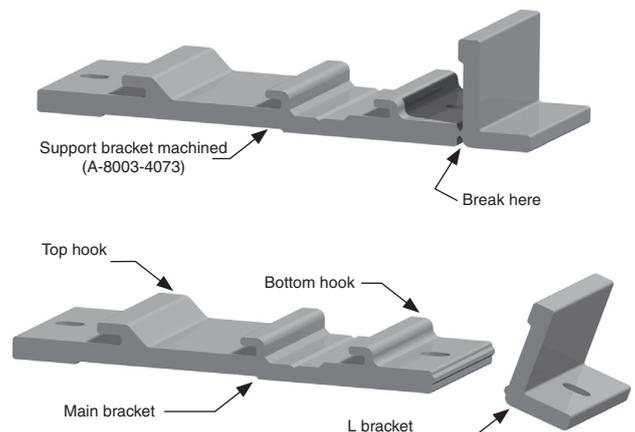

Figure 9 – Support bracket preparation
3. Clamp each support bracket and snap off the L bracket on the end of the bracket (see Figure 9).